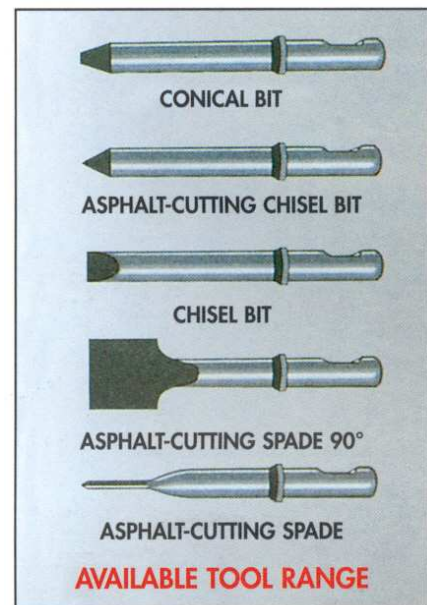

FIG. 5
9. Hardened and tempered steel tool available in various versions (fig. 5).
Figure 5 shows the various tools available and which can be supplied by the Manufacturer, and which can be combined together with the hammer.